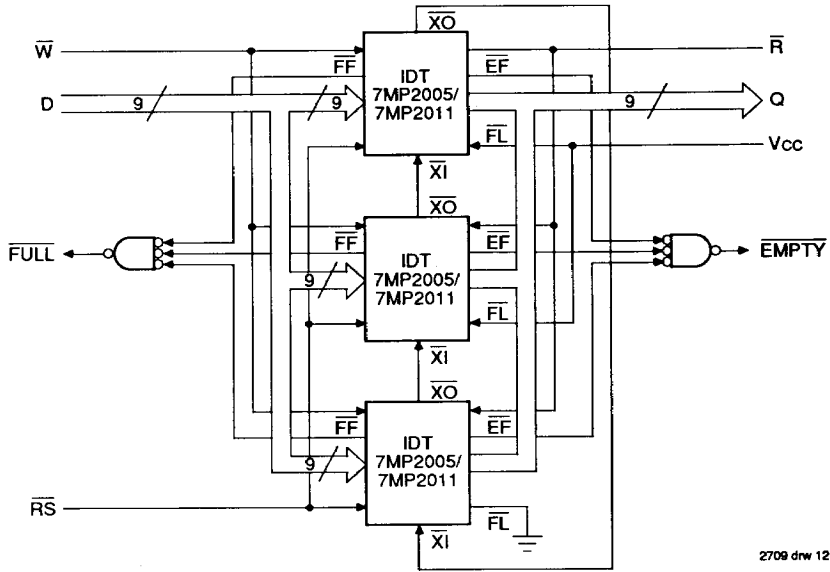

Figure 10. Block Diagram of 24,576 x 9/49,152 x 9 FIFO Memory (Depth Expansion)
The IDT7MP2005/2011 can easily be adapted to applications when the requirements are for greater than 8,192/16,384 words. Figure 10 demonstrates Depth Expansion using three IDT7MP2005/2011. Any depth can be attained by adding additional IDT7MP2005/2011s. The IDT7MP2005/2011 operate in the Depth Expansion configuration when the following conditions are met:
3. The EXPANSION OUT ($\bar{X}O$) pin of each device must be tied to the EXPANSION IN ($\bar{X}I$) pin of the next device. (See Figure 10.)
4. External logic is needed to generate a composite FULL FLAG ($\bar{F}F$) and EMPTY FLAG ($\bar{E}F$). This requires the logical ANDing of all $\bar{E}F$ s and logical ANDing of all $\bar{F}F$ s (i.e. all must be set to generate the correct composite $\bar{F}F$ or $\bar{E}F$). (See Figure 10.)
1. X̄I is connected to X̄O of previous device. See Figure 10.
1. For depth expansion block see DEPTH EXPANSION Section and Figure 10.